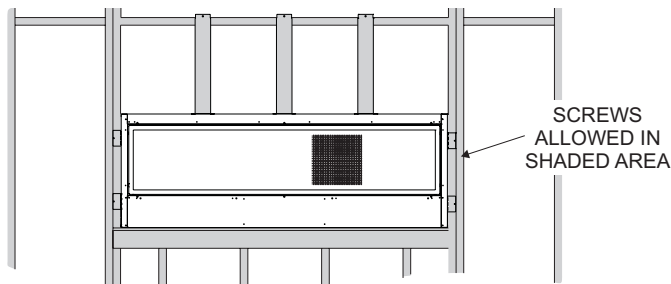

Figure 43
1. Screws are allowed in framing and top mounting brackets. No screws are allowed into the fireplace. **See Figure 43.**